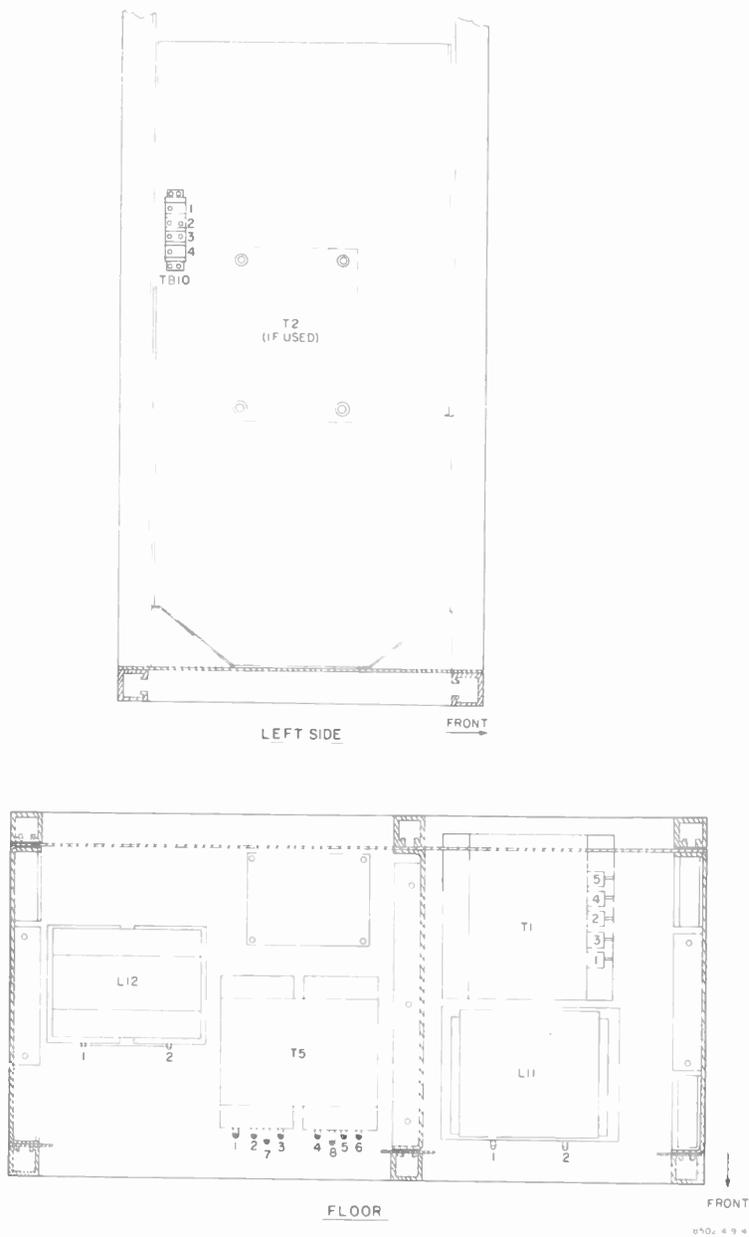

Figure 2-2. Component Installation Details.
- f. Install transformers T5 and T1, voltage regulator T2 (if used), and inductors L11 and L12 in proper positions (figure 2-2). Secure the units with the hardware provided.